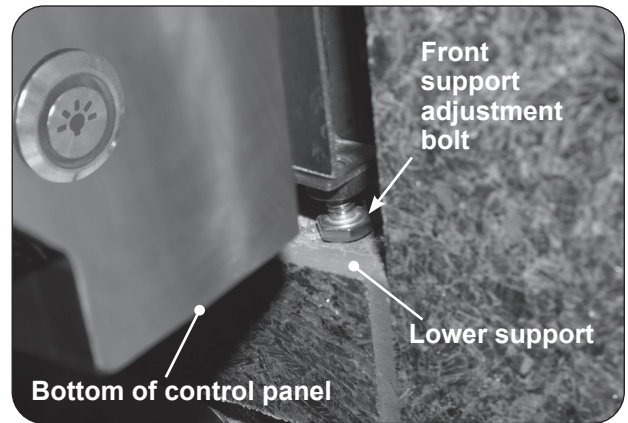

Fig. 29-1 Front support adjustment bolts
3. Rotate the front support adjustment bolts (up or down) until the grill hanger rests flush on the countertop, AND, the adjustment bolts are touching the supporting structure found at the bottom of the cutout (lower support). Use a $\frac{7}{16}$ " open-end wrench as needed. See Fig. 29-1.